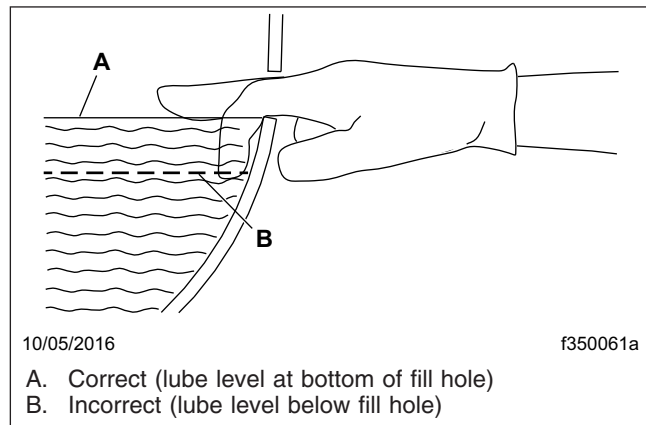

Fig. 4, Axle Lubricant Level Check
4. Check the level of the lubricant. The lubricant must be level with the bottom of the oil fill hole. See Fig. 4. If low, add lubricant.